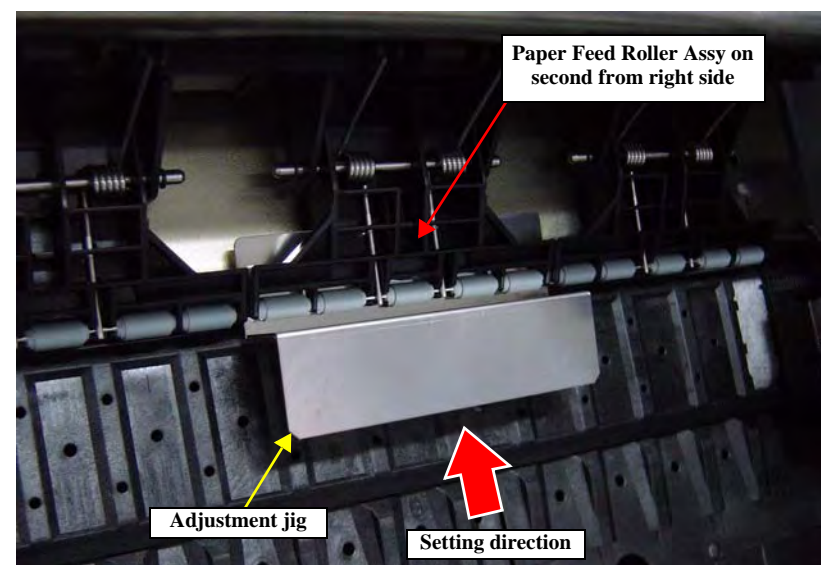

Figure 5-72. Position for the thickness tool (0.5 in thickness)
12. Insert the adjustment jig (0.5) from the paper insertion opening, and set it to the position shown in Figure 5-72, then press the [Paper Set] button.